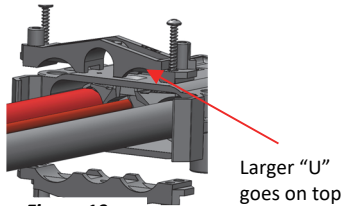

Figure 10
- c. Hold the two clamps tight to the cable while tightening the screws. Auxiliary wires will pass through "U" and are not be grabbed by the clamp. Tighten per table below. (Figure 10)